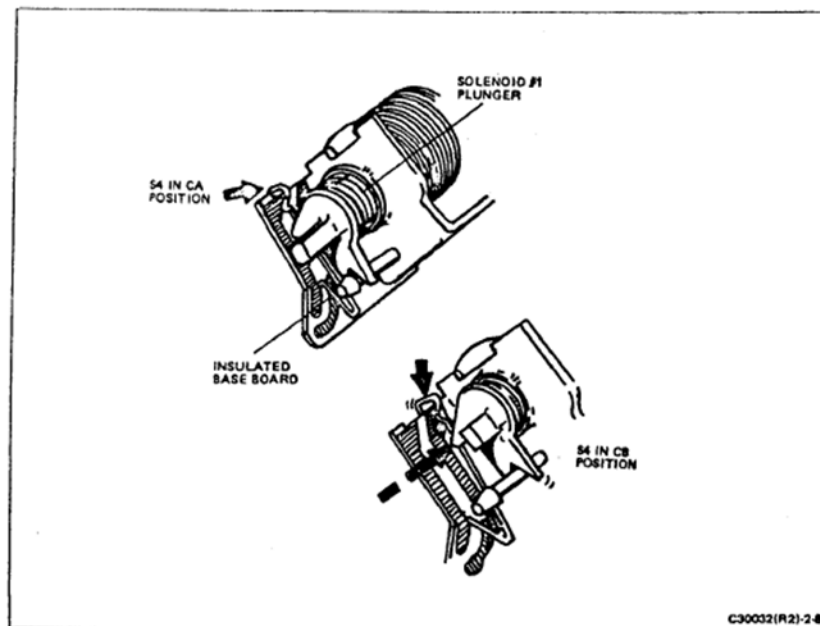

FIGURE 2-8 S4 SWITCH OPERATING CONFIGURATIONS
d. Switch S4 is tripped by an actuator on the plunger of solenoid #1, the shutter blade actuating solenoid (Figure 2-8).